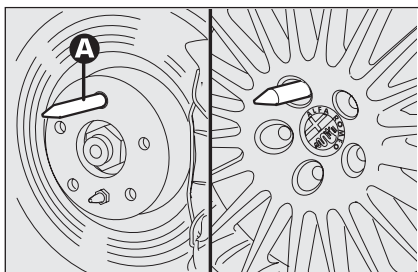

fig. 9
- ☐ tighten pin **A-fig. 9** in one of the holes of the wheel hub fastening bolts;
- ☐ loosen pin **A-fig. 9** and tighten the last fastening bolt;